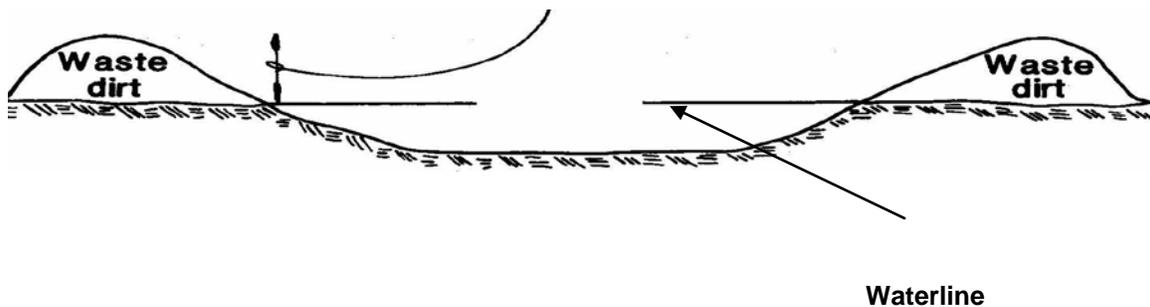

Figure 79—Specifications
*Pit tank or dugout*—Pit tanks should have three sides with a 3:1 slope; the fourth side should have a 4:1 slope (fig. 79). Extracted material is used to build an embankment around the excavation except for the spillway area. The spillway should lead water back to a natural stream course. The distance between the high-water level of the tank and the top of the fill should be at least 3 feet. Each layer of excavated dirt should be packed as it is deposited. An alternative design is to place all the excavated material on the downhill side of the excavation to form a small dam. This method is commonly used in small drainages to catch and store surface runoff. Pit tanks can also be constructed next to streams such that the overflow channel provides an inlet to fill the pit tank during high flow.